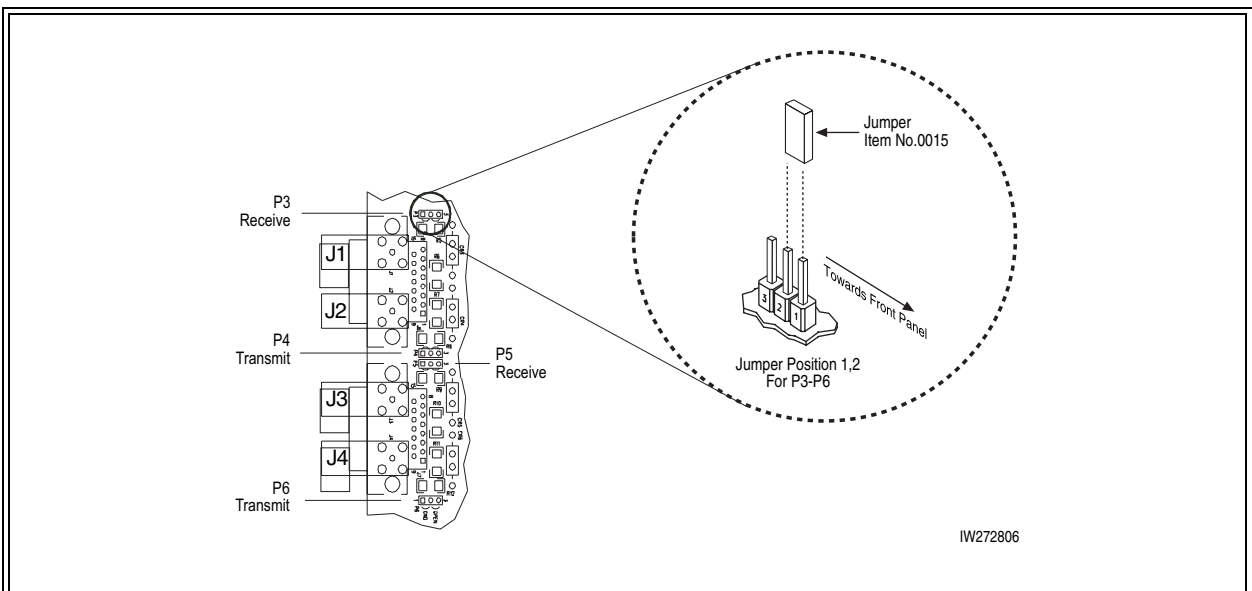

Figure 2-6 Placement of the Jumper for Ports P3-P6
- 3 Look for the four jumpers silk-screened P3, P4, P5, and P6, located next to the external connectors on the dual port E1 card. See Figure 2-6